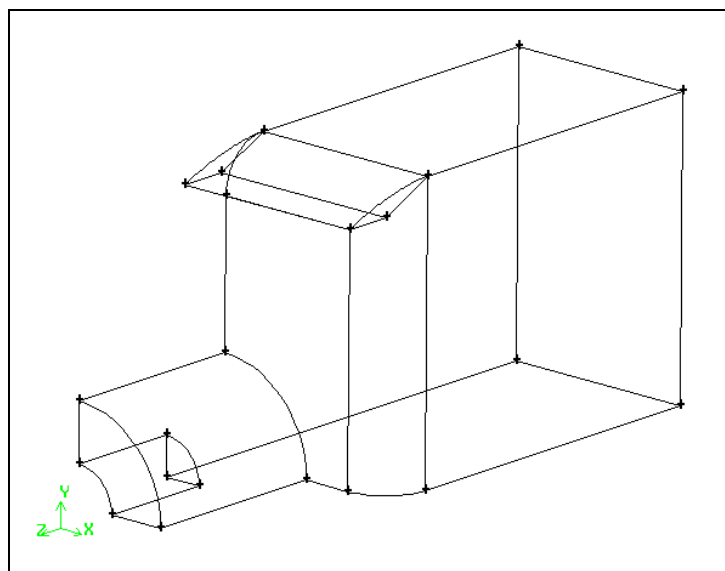

Figure 4-18: Face swept parallel to an edge to form a volume
*The volume created by the sweep is shown in Figure 4-18.*